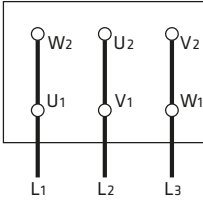

Figure 11a. Δ - connection
- The mains connection on the terminal box depends on the nominal power of the motor, the power supply and the type of connection. The necessary connection of the bridges in the terminal box is shown in the following (Table 3 ve Figure 11a, 11b, 11c).